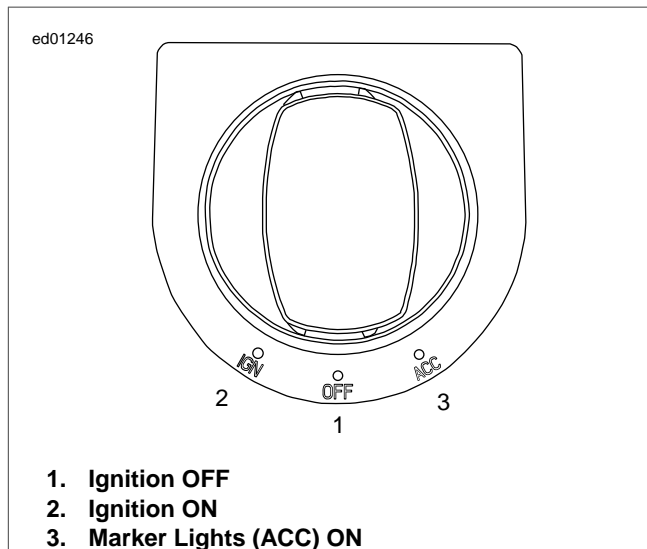

Figure 3-8. Ignition Switch
- See Figure 3-8. "Key ON" means that the Ignition Switch is turned to IGNITION and the Engine Stop Switch is set to RUN (although the engine is **not** running).